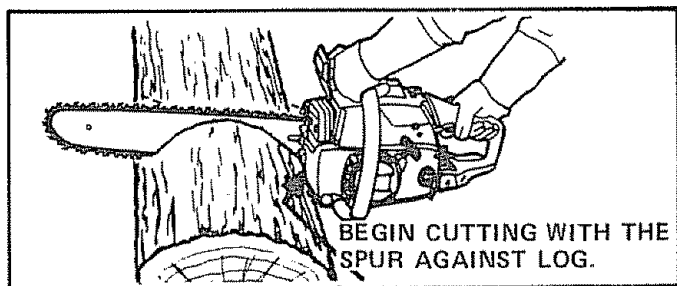

Figure 26
- Begin cutting with the spur against the log. Figure 26.